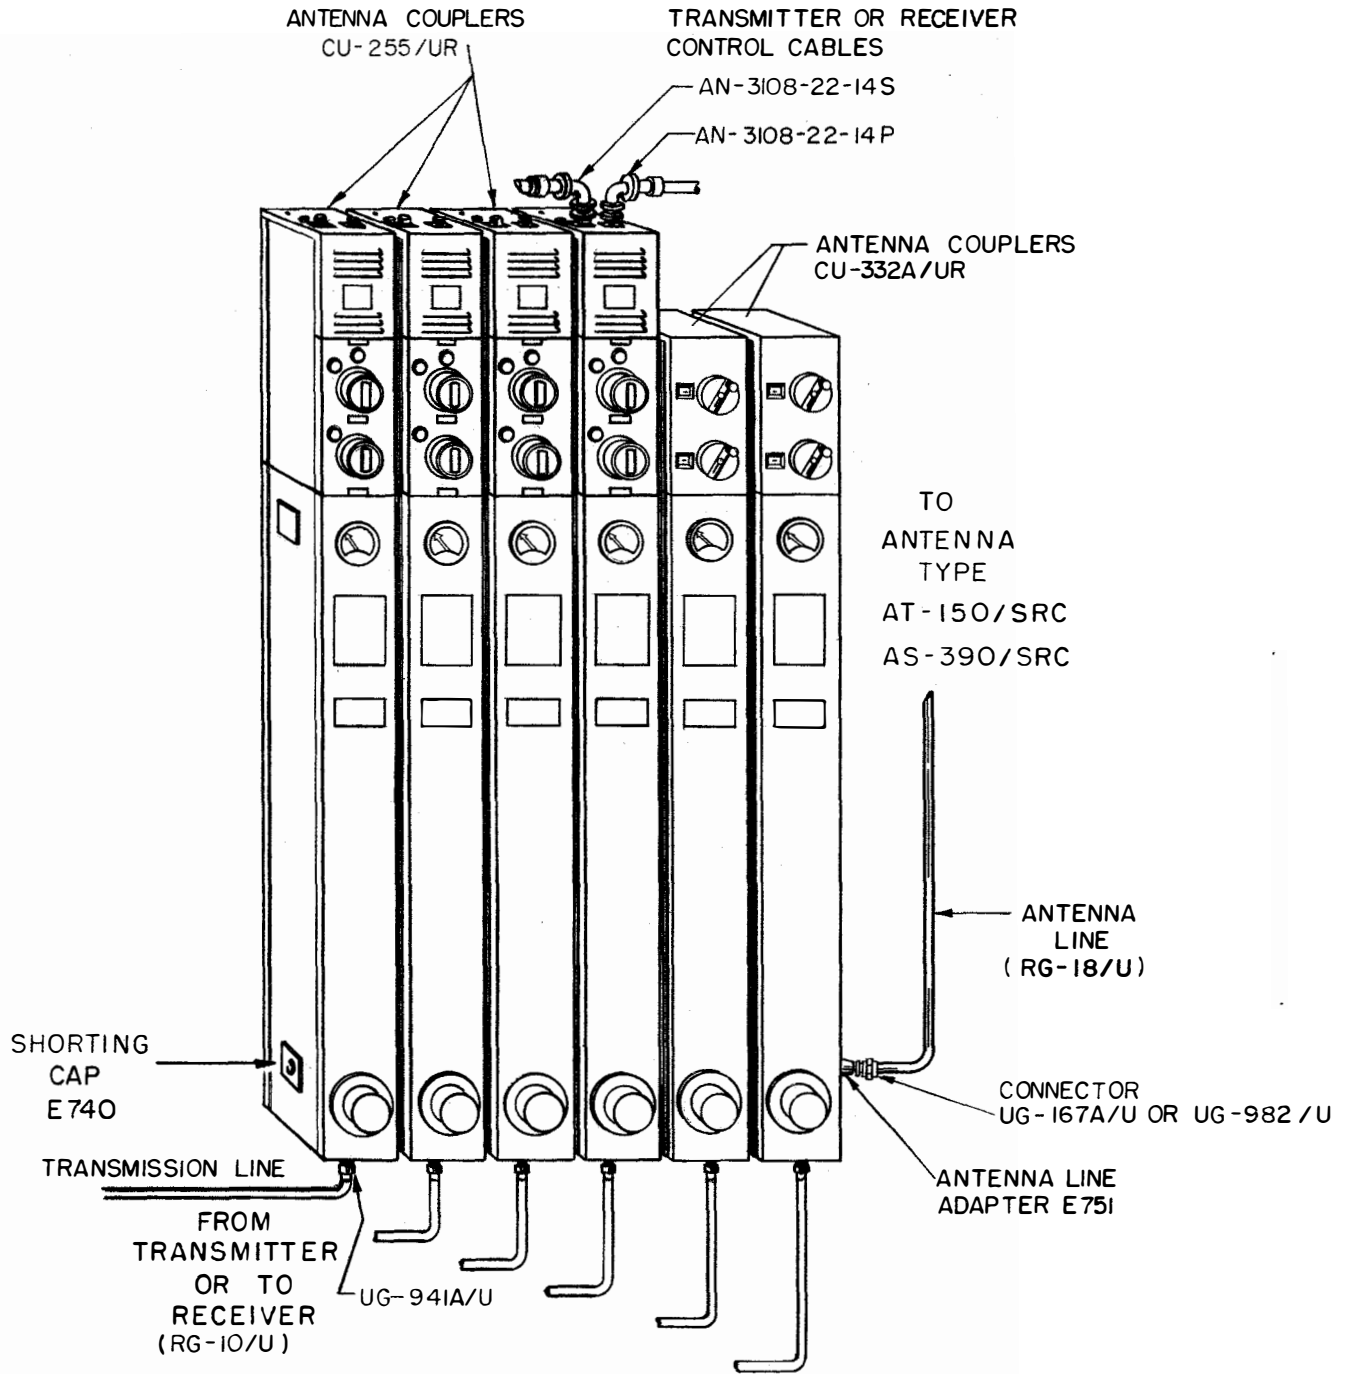

Figure 3-2. Multiple Installation of Antenna Couplers
a. Both automatic and manual Couplers may be used in a single installation group. See Figure 3-2. It must be decided, however, which units in the group may be used to the greatest advantage with the available automatic control systems. The manual Couplers in the group should be used with any transmitter-receiver equipments which either do not have automatic control circuits or with the equipments which are required to change channels least frequently.